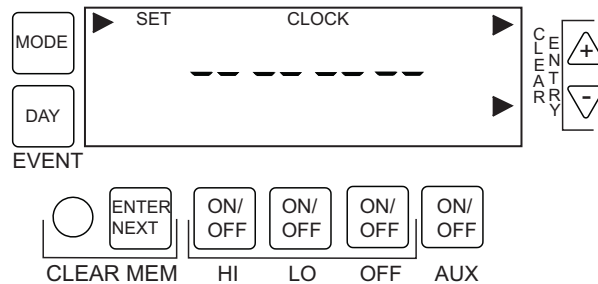

Figure 5 Setting the clock
- Press + or - to scroll to the desired two-digit year (ex: 12 for the year 2012) and press **MODE** to save. The screen displays **SET CLOCK**. (See Figure 5).